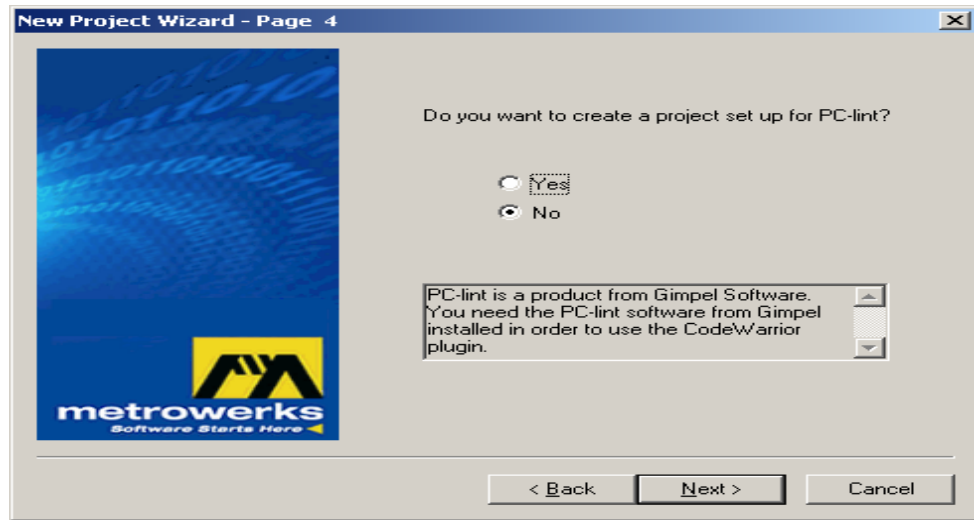

Figure 6
h. Figure 6-Select No for PC-lint